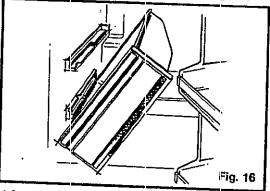

Fig. 16
4. Tilt meat pan and take it out (Fig. 16).